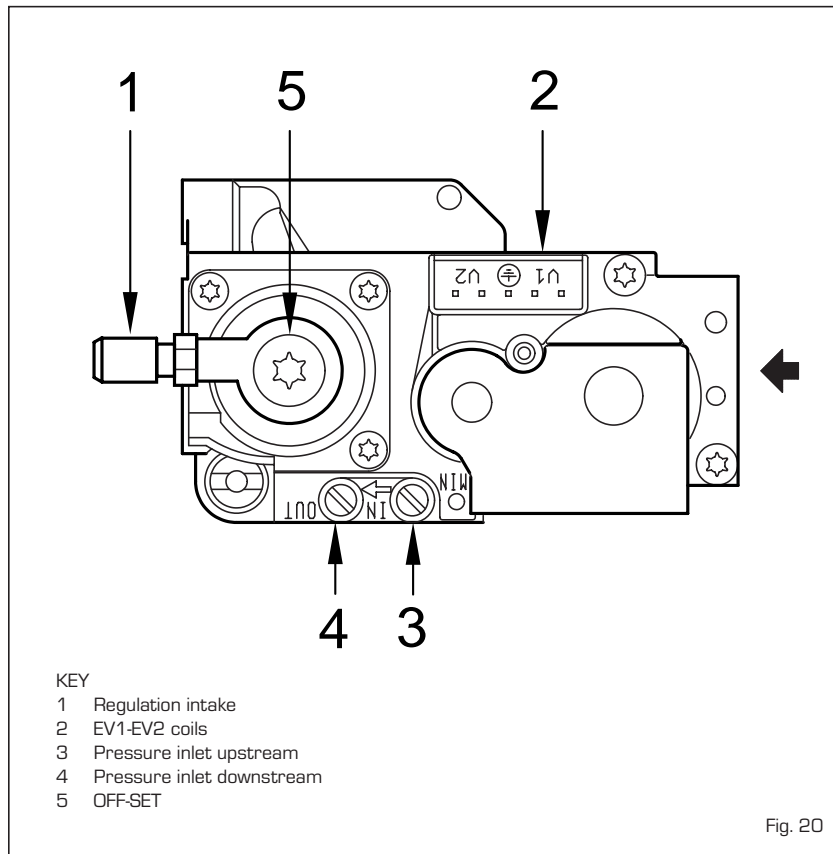

Fig. 20
The boiler, is equipped standard with the HONEYWELL VK B115M gas valve (fig. 20).
With the boiler operating in the maximum rate condition, check that the operational (working) gas pressure at the inlet test point [see fig. 20 item 3], complies with the requirements of 1.3.